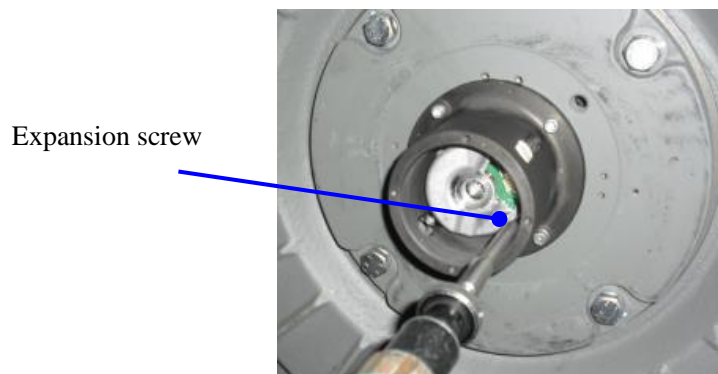

Figure 18: Loosen the Expansion screw
4. Loosen (do not remove) the Expansion screw with hex wrench 2mm. See Figure 18.